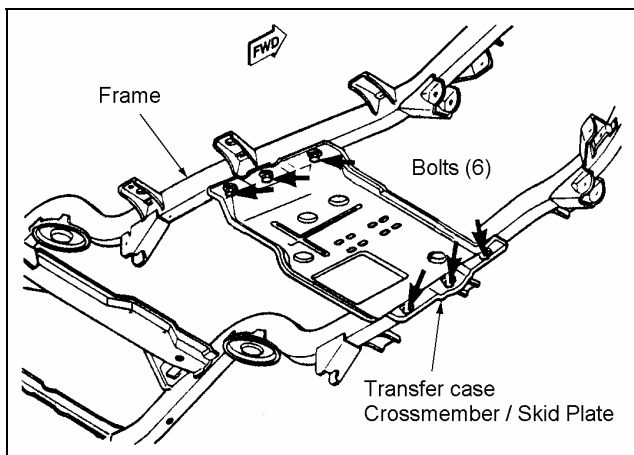

Figure 11
2. ☐ Place the transmission in neutral. Support the transfer case crossmember/skid plate with a hydraulic jack. Loosen the 6 bolts holding the crossmember to the frame. See figure 11.